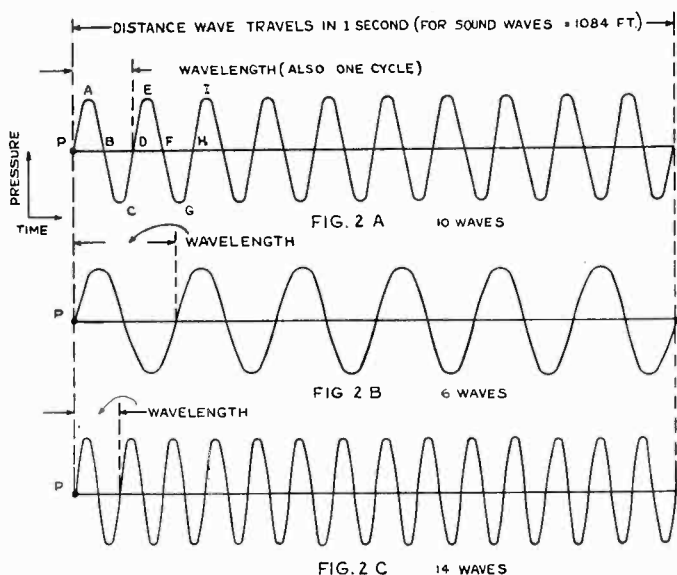

Fig. 2. Illustrating the terms cycle, wavelength, and frequency.
**4. Frequency:** The number of complete waves or cycles that pass a fixed point in one second is called the frequency. To show the relation between these familiar terms more clearly, let us refer again to Fig. 2, a. Suppose we have an instrument at point P which is producing the sound wave shown, having a frequency of 10 cycles, or complete waves, per second. Then in one second the disturbance will travel 1084 feet—this being the velocity of sound waves in air—taking it to point Q. In the space between P and Q there are 10 complete waves, because 10 waves have been produced during the second. Therefore, the
Now suppose the instrument at P is made to produce a sound wave of lower pitch, having a frequency of 6 cycles per second. This wave is shown in Fig. 2, b. Then in one second the disturbance travels 1084 feet as before, but since there are only six waves produced during this time interval, the length of each individual wave must be longer than in the previous case.
In Fig 2, c, the instrument is producing a wave of higher pitch, having a frequency of 14 cycles per second. In this case the wavelength is  $1084 \div 14 = 77.4$  feet. It is evident from this illustration that as the frequency is decreased, the wavelength becomes greater, and as the frequency is increased